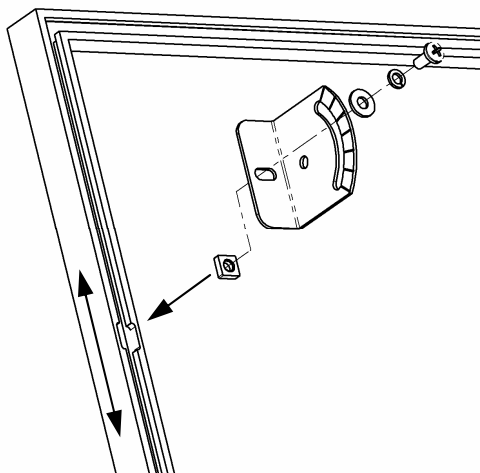

Figure 2
- Using the square nuts, flat washers, split lock washers and 10-32 screws, install the two (2) swivel brackets included with the kit into the side slots toward the lower portion of the panel as shown in **Figure 2**.
- Loosely assemble the two (2) support arms to the ends of the cross member using the provided K-lock nuts, flat washers and 10-32 screws.